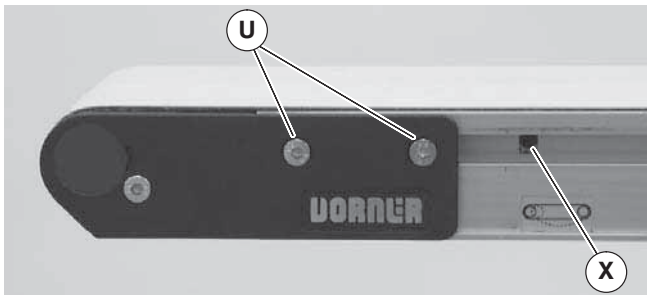

Figure 8
5. With a 5 mm hex-key wrench, rotate pinion gear (Figure 8, item X) to tension the conveyor belt. Tighten fastening screws (U) on both sides of conveyor to 80 in-lb (9 Nm). For proper tensioning, refer to “Conveyor Belt Tensioning” on page 13.